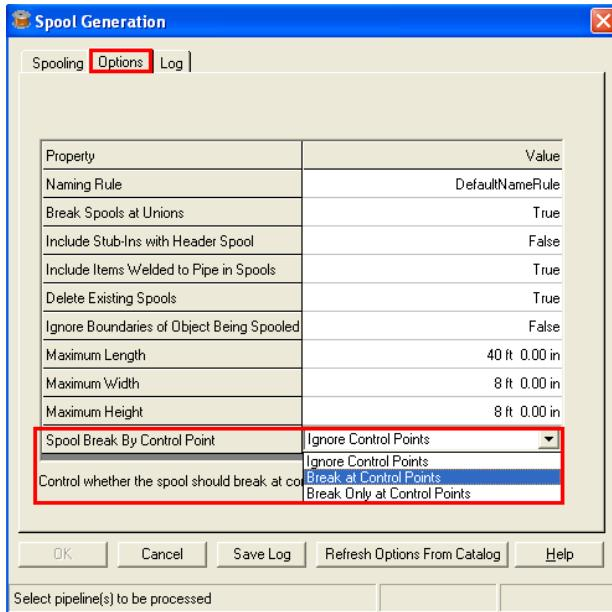

Figure 27: Defining Options in the Spool Generation Dialog Box
8. On the **Options** tab in the **Spool Generation** dialog box, select the **Break at Control Points** option in the **Spool Break By Control Point** drop-down list, as shown in Figure 27.